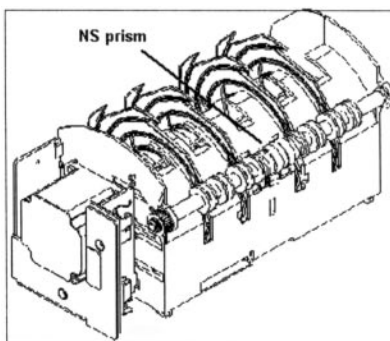

Figure 5-17. The location of the note stacker prism.
1. Send command Clean NS Rollers, item 217 from the NMD test program.
3. Refer to Figure 5-17. While the note stacker is running use compressed air on the track of the note stacker prism.